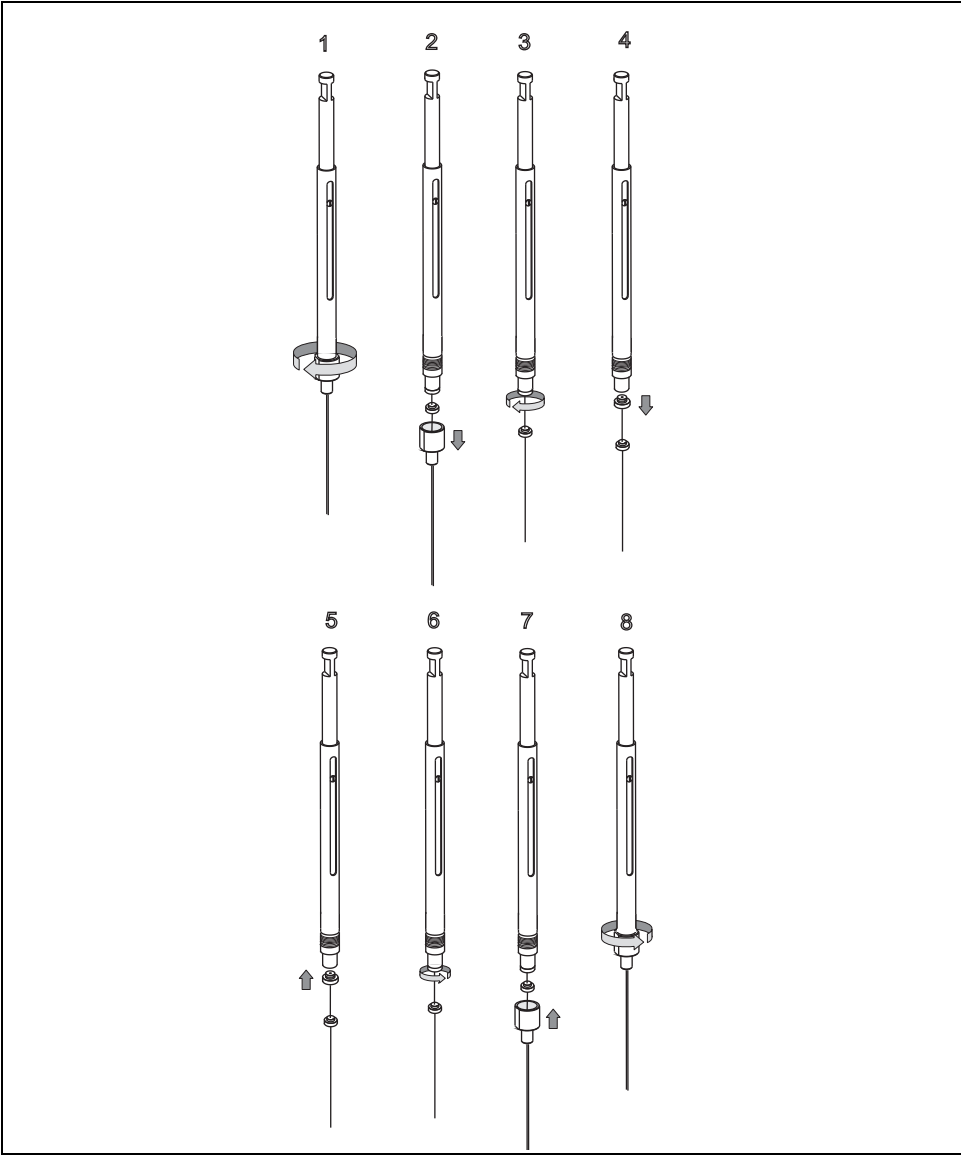

Figure 7-14. Fiber Replacement
To replace the fiber refer to Figure 7-14 and proceed as follows:
1. Unscrew and remove the protective needle from the fiber holder. See **1** and **2** of Figure 7-14.
2. Unscrew and remove the fiber with its seal from the fiber holder. See **3** and **4** of Figure 7-14.
3. Screw the new fiber with its seal to the fiber holder. See **5** and **6** of Figure 7-14.
4. Screw the new fiber and its seal to the fiber holder. See **5** and **6** of Figure 7-14.
5. Insert the fiber into the protective needle then screw it to the fiber holder. See **7** and **8** of Figure 7-14